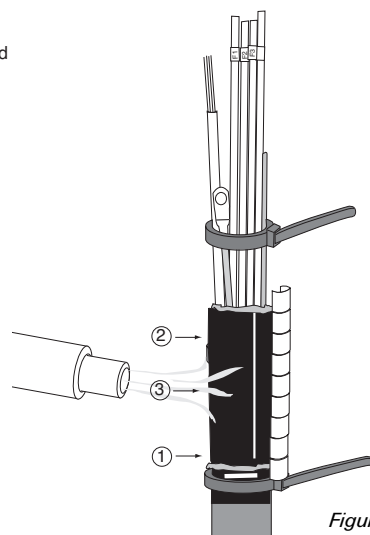

Figure 12
- Continue heating until the entire tube has shrunk, then apply additional heat to the lump of adhesive in the middle of the tube. When the seal is complete, the tube should be smooth and the adhesive lump should be melted. (Figure 12)